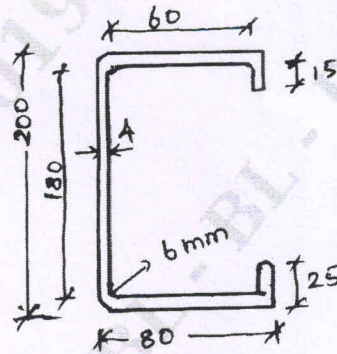

Fig Q8(b)
b. Determine the allowable load/m on a beam with cross section shown in Fig Q8(b). The beam has an effective span of 4m. The steel has a yield point of  $235 \text{ N/mm}^2$ . Take  $E = 2 \times 10^5 \text{ N/mm}^2$ .